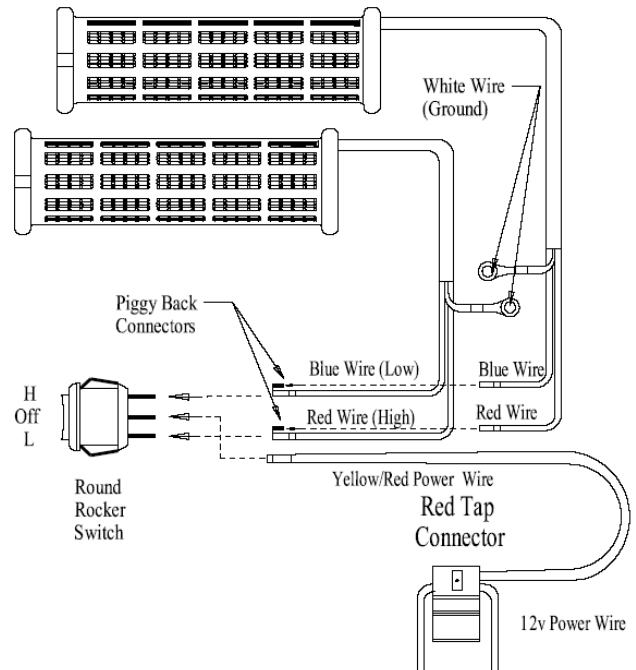

Figure 1. Connector guide & switch connections
12. Attach female slip-on connectors, piggyback cc 04/27/11 ring terminals as shown in Figure 1. A crimping tool works best or pliers will work using a double crimp approach (top crimp first and then a side crimp). For Ground connection (white wires) use a frame component or a Ground wire, not a rubber isolated component such as a handlebar or steering assembly.
13. Connect heated grip wired to the switch according to Figure 1, align the switch as you want to read it and insert it into hole drilled in step #10.
14. Locate a voltage controlled power wire (such as one leading to a headlight, taillight, or aux power outlet). Using the red tap connector, place this power wire into the continuous channel. Insert the yellow or red wire (do not strip insulation) into the adjacent channel. Using pliers, press the metal contact flush with top of connector. Close the hinged cover until latched. See **Figure 1** for connection to switch. **Note:** For added protection, install a 4- or 5-amp fuse (not included) between the tap connector and the switch.